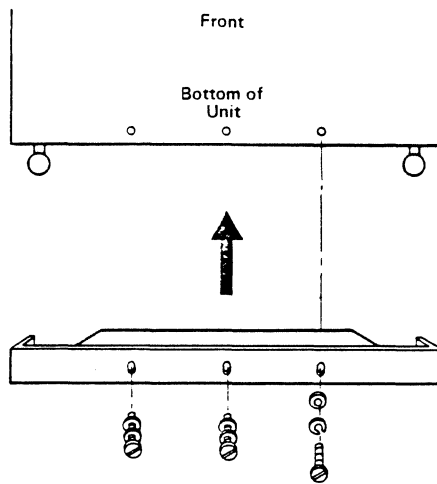

Figure 6-8. Installing the Front Ground Plate
14. Install the ground plates as follows. Open the front, bottom door and slide plate (PN 6431182) under the front of the machine below the door gasket (Figure 6-8).